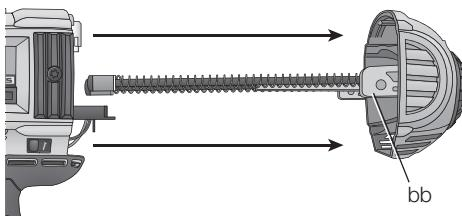

FIG. 16
2. Remove the return system (bb) from the unit. Refer to Figure 16.